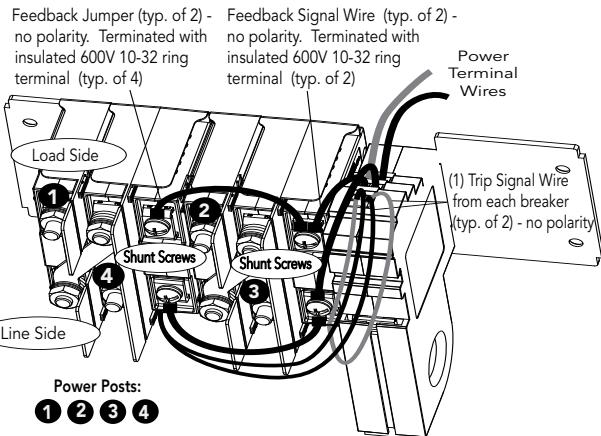

Figure 6. Pre-Wired GFPD-600V / Breaker Assembly
The GFPD-600V and breakers are assembled at the factory. Feedback jumper, shunt and trip signal leads are pre-wired to the GFPD-600V terminals - See Figure 6. The GFPD-600V external voltage source connections are described in the next section - Completing Wiring.
3.2.2 Completing Wiring - See Figures 6, 7 and 8
Step 2. Crimp the included ring terminals on the ends of the (+) and (-) solar->breaker conductors, and attach solar array (+) wire to post (2) (load side), and solar array (-) wire to post (4) (line side) using the supplied hardware (see Figure 6).
Step 3. Crimp the included ring terminals on the breaker side ends of the (+) and (-) breaker->controller wires. Attach breaker side (+) wire to post (3) (line side) and breaker side (-) wire to post (1) (load side) using the supplied hardware (see Figure 6).